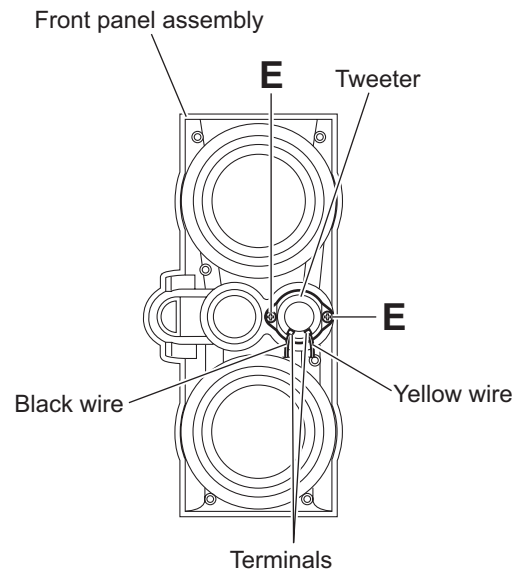

Fig.4
- (3) From the inside of the front panel assembly, disconnect the yellow and black wires from the two terminals on the tweeter. (See Fig.4.)
### 3.4.4 Removing the tweeter (See Fig.4)